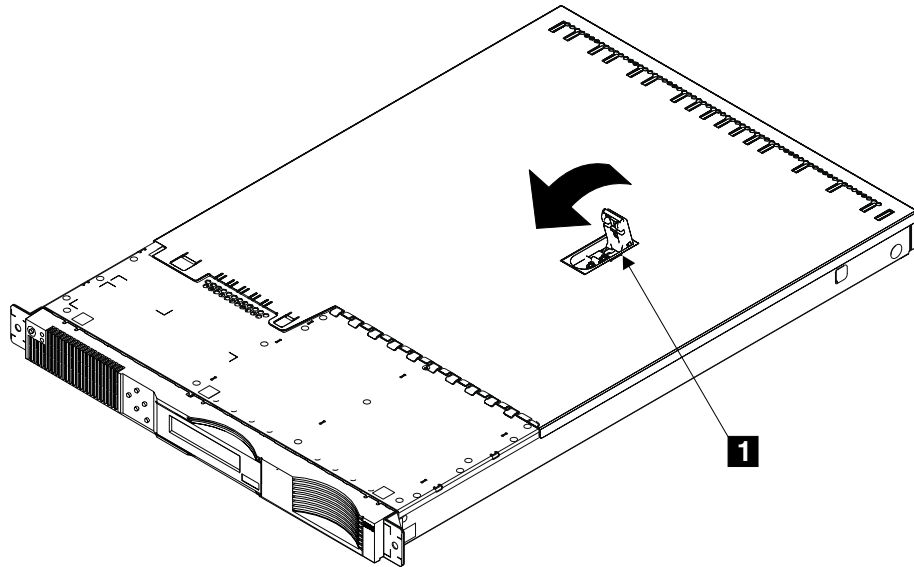

Figure 81. Installing the Top Cover
1. Refer to Figure 81 on page 133.